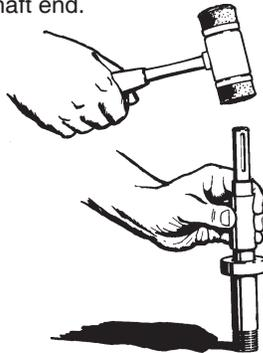

Figure 4-27
- Insert the shaft into the pipe so the bearing is between the pipe and the shoulder of the shaft. Refer to Figure 4-27.